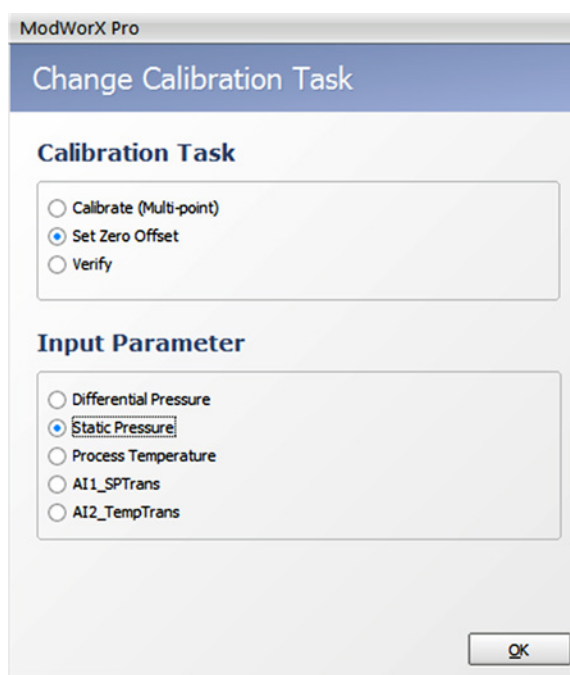

Figure 8.10
1. On the Change Calibration Task screen, click **Set Zero Offset** as the Calibration Task, and click the input parameter of your choice. For this example, Static Pressure is the input parameter to be zeroed (Figure 8.10).